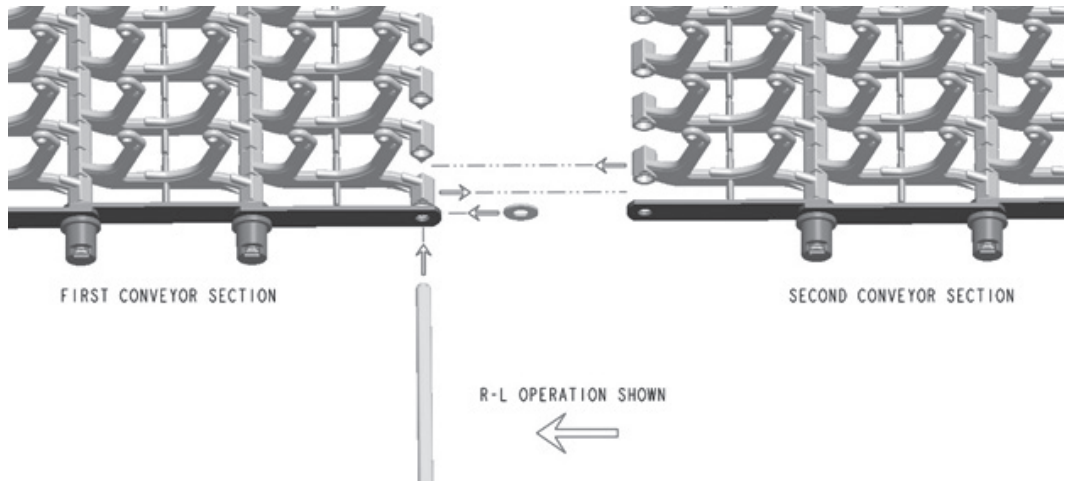

Fig. 34
- Remove the conveyor roller from one end of the last conveyor rod on the first section. Then pull the conveyor rod out and save the roller and washers for re-assembly. To join the sections, thread the rod back through the side bars and washer and then through the flight links, alternating the links from the first and second sections, and then through the washer and side bars on the opposite side. Complete the assembly by attaching the conveyor roller with a new retaining ring (Figs. 34 & 35). Spin the roller to ensure that the retaining ring has been secured to the conveyor rod. Always use a new retaining ring to secure a tight grip on the conveyor rod. Repeat this step for joining each succeeding conveyor section.